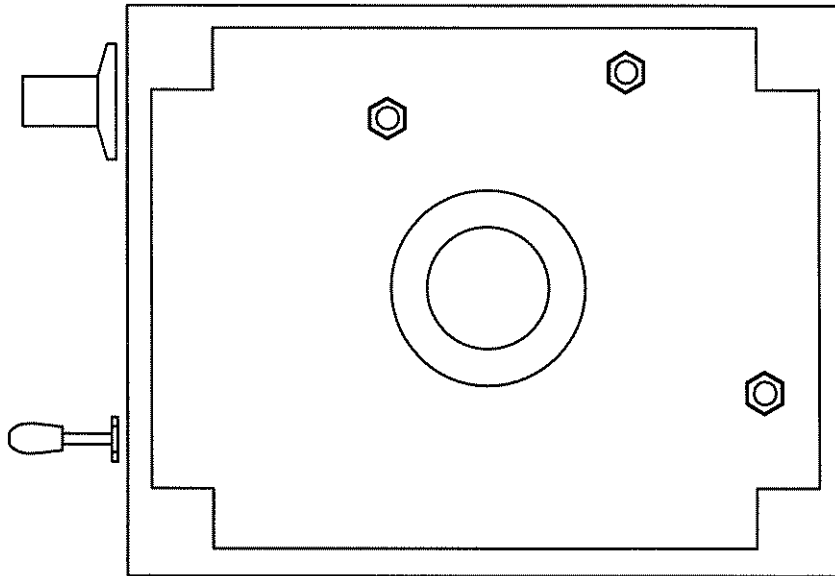

Figure 24: Shutter Mounting Screws
- Step 3:** (Refer to Figure 24.) Lay the housing on a flat surface and use a $\frac{3}{16}$ inch wrench or nut driver to remove the nuts and lock washers.